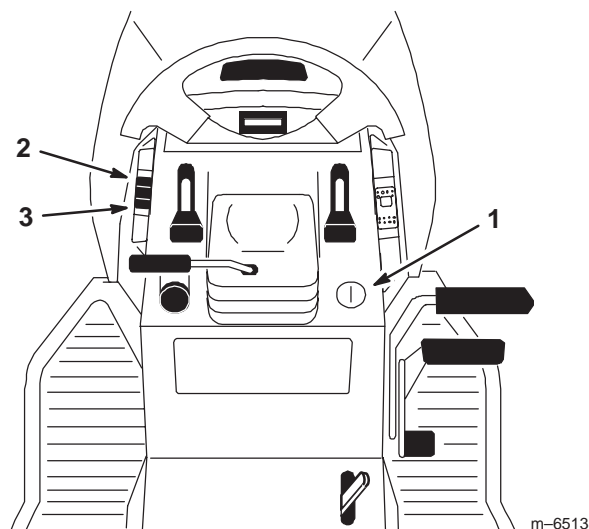

Figure 13
The attachment power lift (Fig. 13) is used to raise and lower attachments.
1. Turn key to the **on** or **run** position (Fig. 13).
2. Push the lift switch in the **up** direction to raise the attachment lift (Fig. 13). This will lift and hold the attachment in the up, or raised position.
2. Push the lift switch in the down direction to lower the attachment lift (Fig. 13). This will lower the attachment lift.